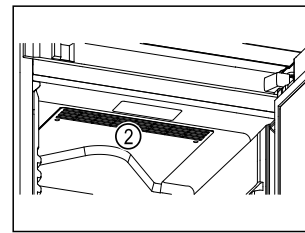

Fig. 66
- ❑ Ventilation slots Fig. 66 (2) for recirculation fan in the interior must be kept clear.